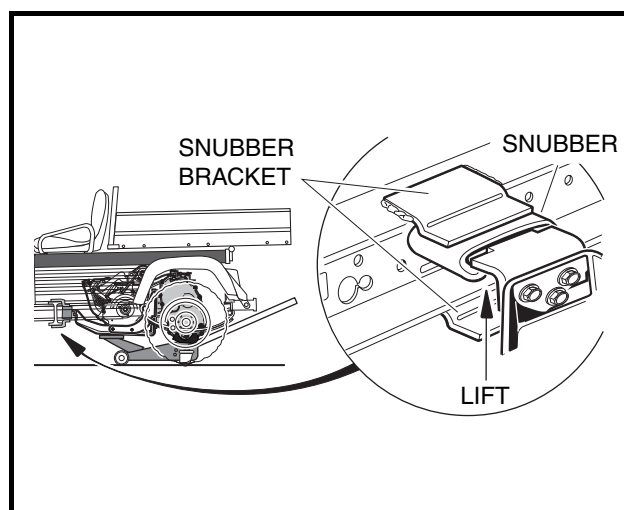

Figure 14-1 Compress Engine Snubber
- 1.8. Chock the front wheels and place a floor jack under the engine mounting plate, and raise the engine until the front bracket snubber is fully compressed. This will allow the carburetor to pass the electrical box assembly. (**Figure 14-1, Page 14-2**).
13. Install the carburetor (12), gasket (10), throttle spring (11), bracket (4), gaskets (1) and (3), and carburetor insulator (2) onto the manifold bolts (18).
14. Install the intake pipe gasket (16) (check for proper orientation) and intake pipe (17).
15. Attach the carburetor retaining nuts (19) and tighten them to 50 in-lb (5.7 N-m).
16. Lower the floor jack from under the engine mounting plate, allowing the front bracket snubber to return to normal condition **(Figure 14-1, Page 14-2)**.